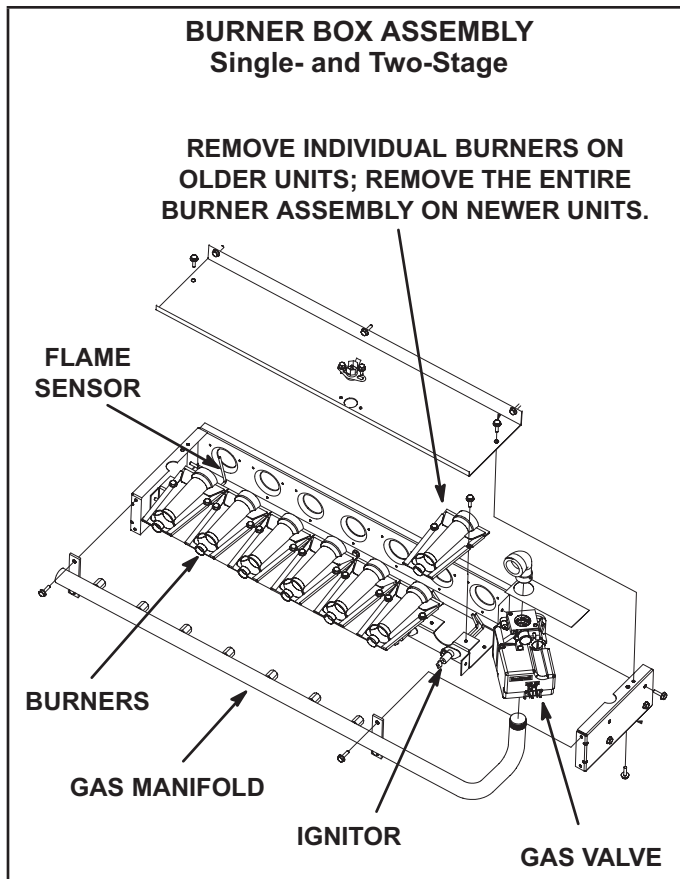

FIGURE 40
- 4 - Remove screws securing burners to burner support and lift the individual burners or the entire burner assembly from the orifices. See FIGURE 40. Clean as necessary.
- 6 - Replace burners and screws securing burner. See FIGURE 40.